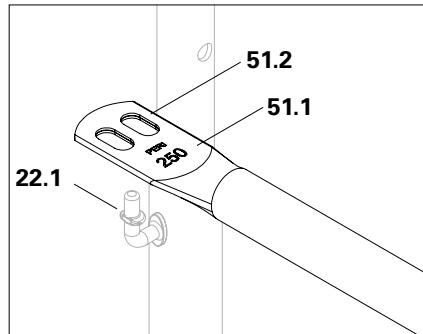

Fig. A3.03a
1. Turn the connecting pieces (**51.1**) of the guardrail post horizontally and position them on the guardrail hooks. (Fig. A3.03a)